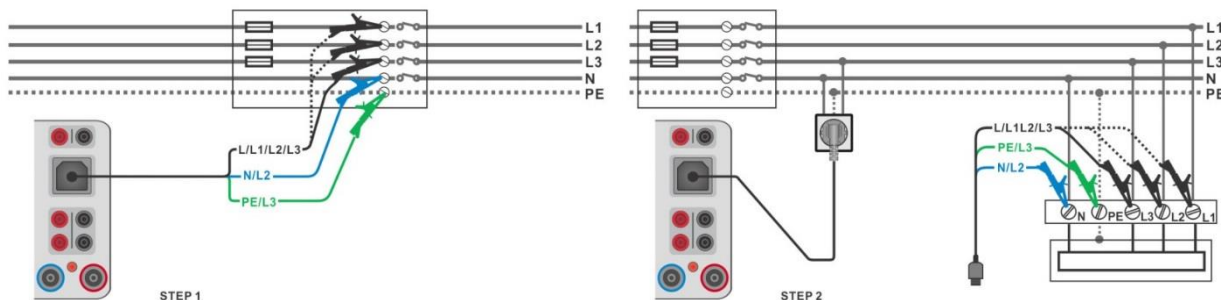

Figure 6.88: Zref (STEP1) and Voltage drop (STEP2) measurement – connection of Plug test cable or 3-wire test lead
- › Connect 3-wire test lead to the origin of electrical installation, see **Figure 6.88**.
- › Connect 3-wire test lead or Plug test cable to the tested points, see **Figure 6.88**.